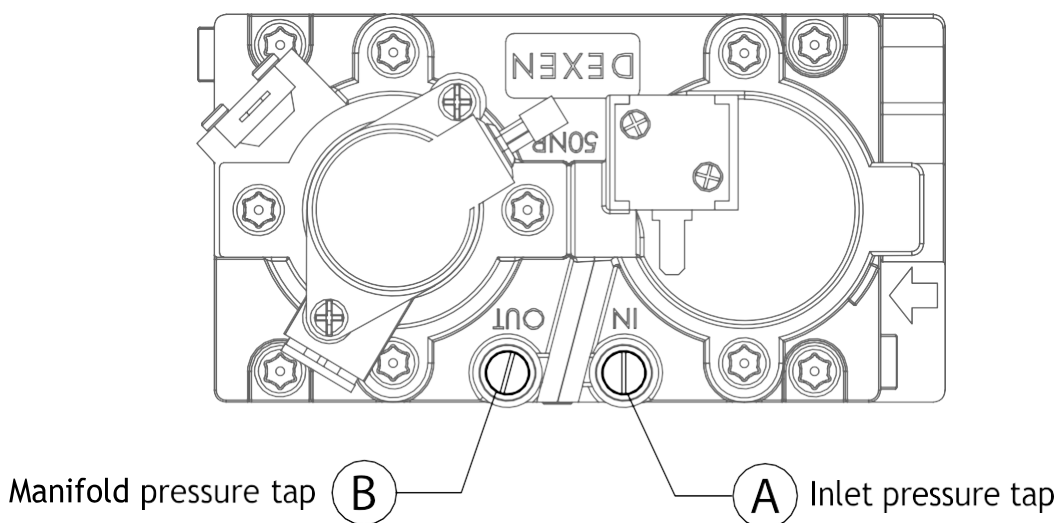

FIGURE 11.1 Pressure Check Taps
1. Loosen the inlet (IN) pressure tap by turning screw counter-clockwise. See (A) in FIGURE 11.1.
5. Disconnect hose and tighten the inlet (IN) pressure tap by turning screw clockwise. Screw should be snug. Do not over tighten.
6. Relight pilot and burner. Then reattach manometer to the inlet pressure tap (A) to verify the tap is completely sealed. Manometer should read no pressure.
7. Relight pilot and burner. Then reattach manometer to the inlet pressure tap (A) to verify the tap is completely sealed. Manometer should read no pressure.
2. Loosen manifold (OUT) pressure tap by turning screw counter-clockwise. See (B) in FIGURE 11.1.
7. Attach the manometer to the manifold pressure tap (B) to verify it is completely sealed. The manometer should read no pressure when pilot and burner are on.